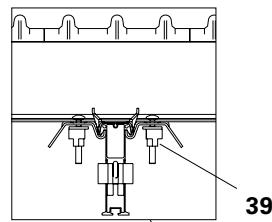

Fig. A9.04a
6. Insert additional Tension Sleeves SAO (39) on both sides as far as the bottom main beams. Push the previously mounted tension sleeves inwards against the bottom main beams. (Fig. A9.04a)